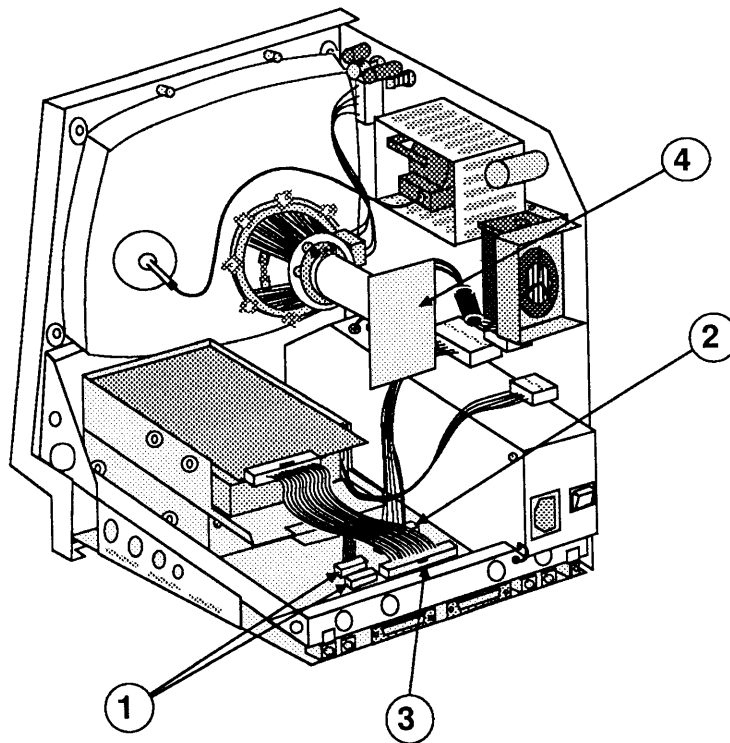

FIGURE 21
- Internal disk drive cable(s) (Figure 21, #1)
- Power supply cable (Figure 21, #2)
- Hard disk drive cable, if present (Figure 21, #3)
7. Reconnect the video board (Figure 21, #4) to the neck of the CRT. It fits only one way.